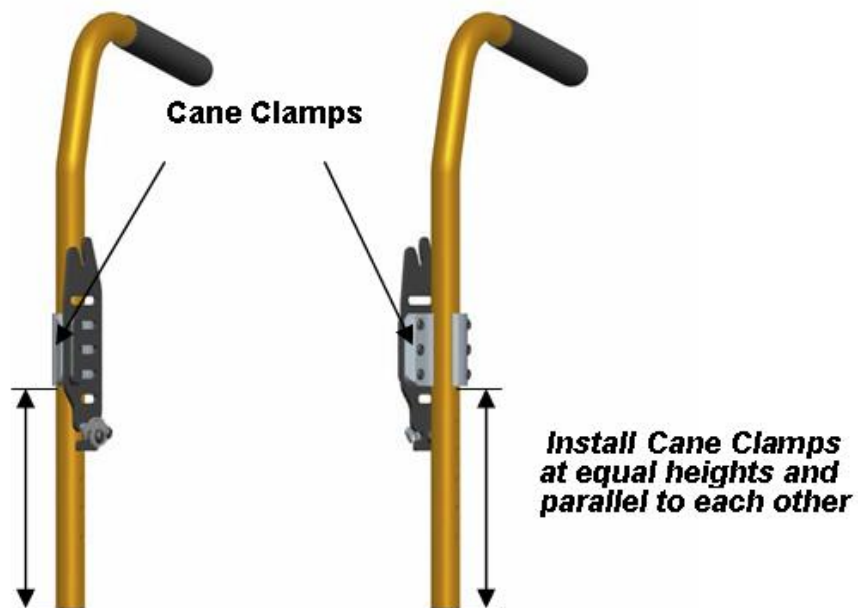

FIGURE 4
4. Using a ruler, measure the exact height of the installed cane Clamp from a fixed point on the wheelchair, and install the second Cane Clamp at the same height on the opposite back post (see Fig. 4 below).